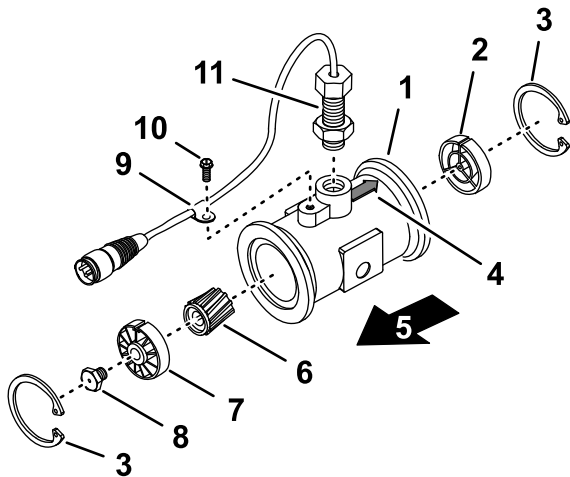

Figure 109
3. Remove the retainer ring on the upstream side (Figure 109).